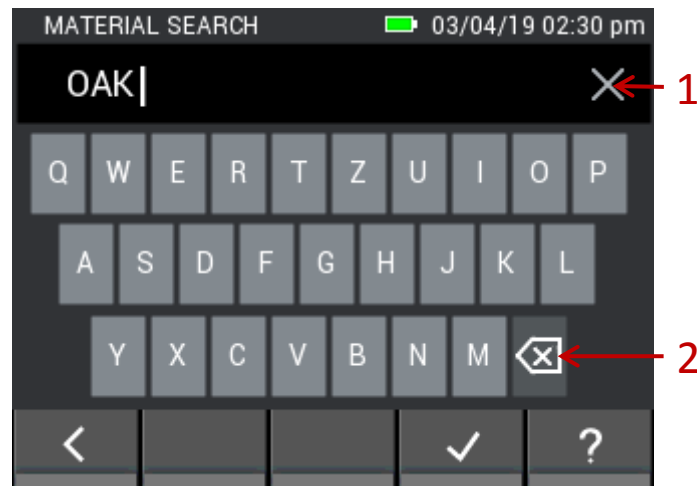

Figure 5-8: Keyboard input for the wood search
In the wood type search, the complete name of a wood type or only any part of it can be entered before the search is started. Button (1) in Figure 5-8 clears the entire input; button (2) deletes the last character of the input.